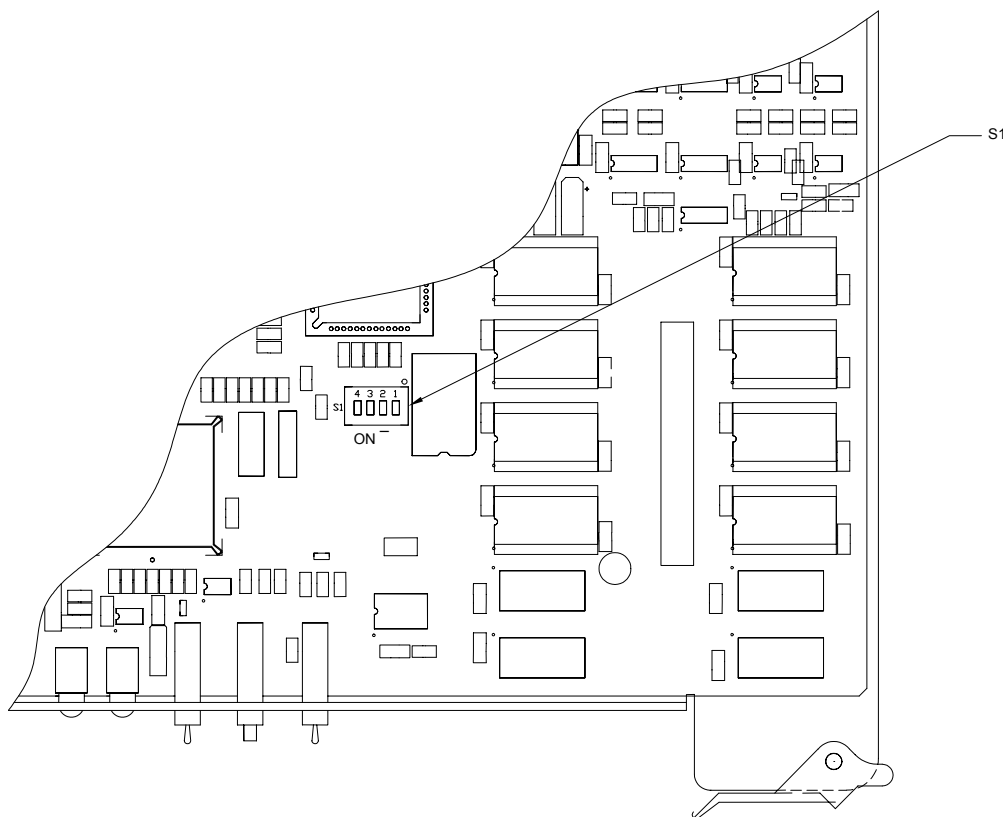

Figure 61. 3500Pro S1 (Operational Mode/Config Bypass/Comm Rate)
2. Remove the 3500Pro from the chassis to allow access to switch S1 (see Figure 61 on page 43). Set switch S1-2 to the ON position in accordance with Table 4 on page 44.